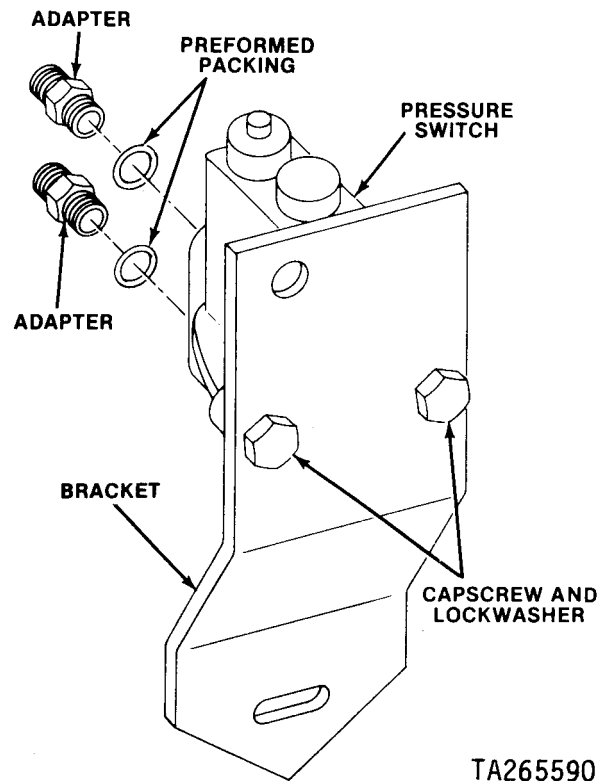

Figure 4-10 Removing or Installing Dust Detector Pressure Switch
(1) Install two new preformed packings (fig. 4-10) and two adapters. Position right bank pressure switch on bracket and secure with two cap-screws and lockwashers.